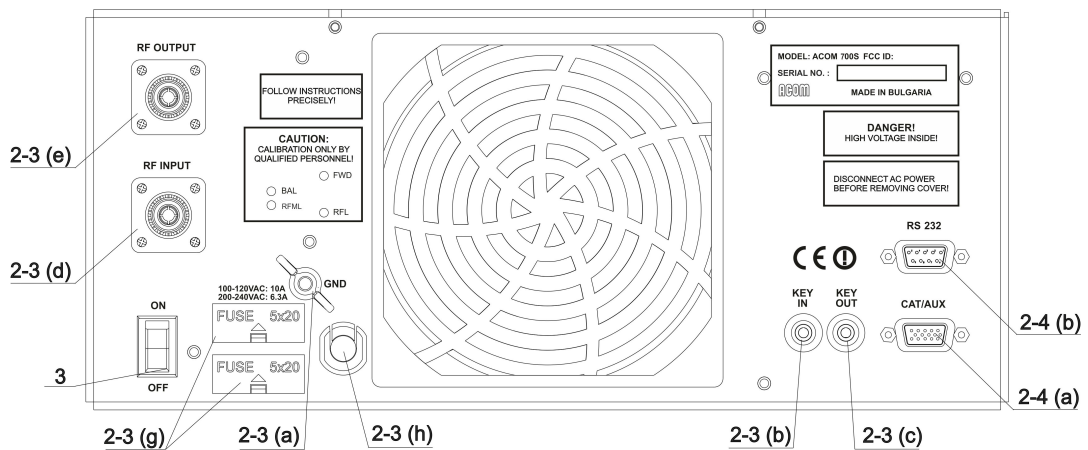

Fig. 2-1 Rear panel connections
The ACOM 700S linear amplifier is a Class I apparatus regarding protection against electric shock, i.e. the third grounding lead of its mains cord (colored yellow with two green stripes) and the grounding stud on the rear panel, marked GND (Fig. 2-1), must be connected to the grounding system of the shack for safe operation.
- a) GND stud - First connect the grounding stud of the amplifier (located on the rear panel and marked GND – Fig. 2-1) to the grounding system of the shack.
Run a shielded cable from the output of your transceiver, providing “ground on transmit”, to the KEY-IN input on the amplifier rear panel (RCA PHONO jack – Fig. 2-1). Use a standard RCA PHONO plug for connection to the amplifier.